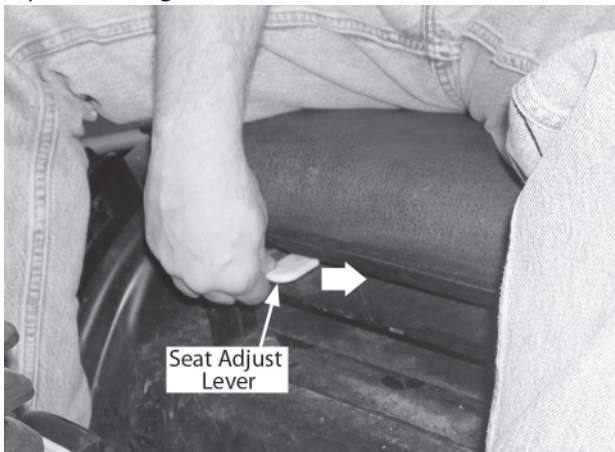

Figure 6-8
1. While sitting in the seat, grasp the seat adjustment lever at the front/right of the seat and push/pull it toward the left side of the tractor to disengage the seat index plate. See Figure 6-8.